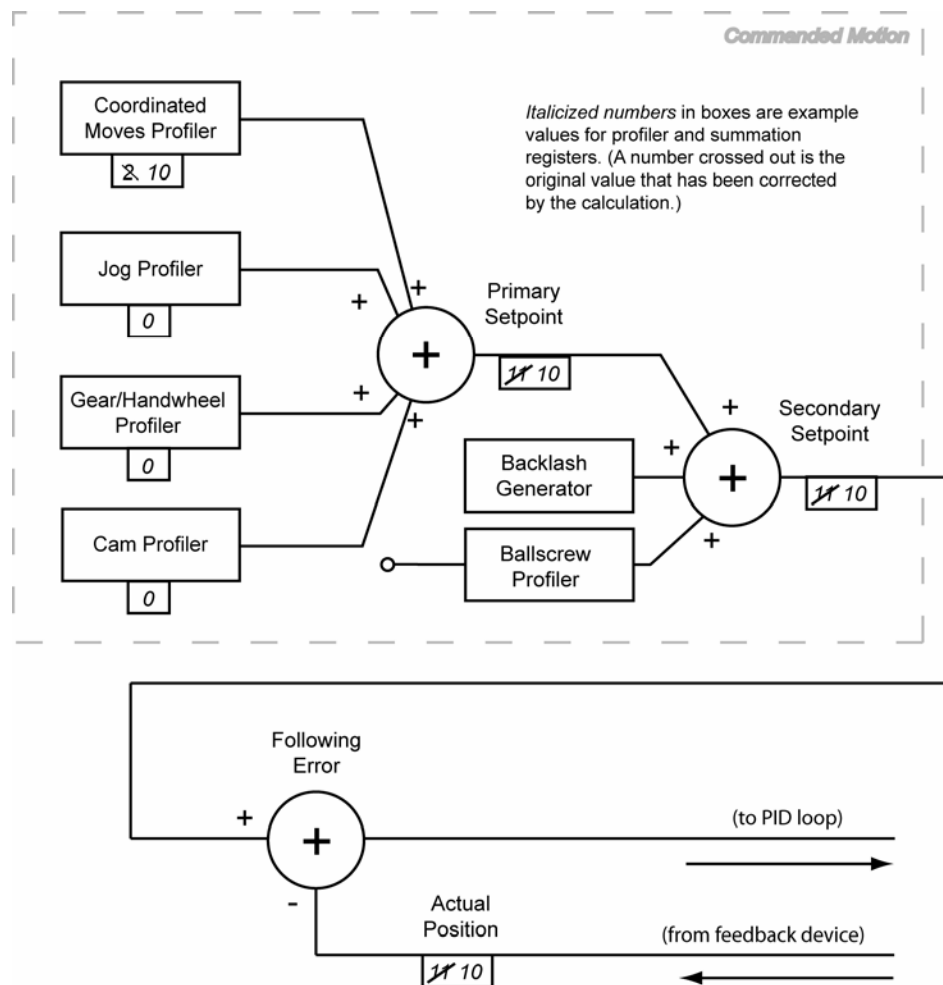

Figure 3 Register Values for RES X10
See Figure 3 for a diagram of the profiler and summation registers for the command RES X10. The values of the Coordinated Moves Profiler, Primary and Secondary Setpoints, and Actual Position registers have been changed to 10. The remaining profilers have been changed to zero.
If **RES** is used without an axis and preload value, all the registers shown in Figure 3 would be zero (0).